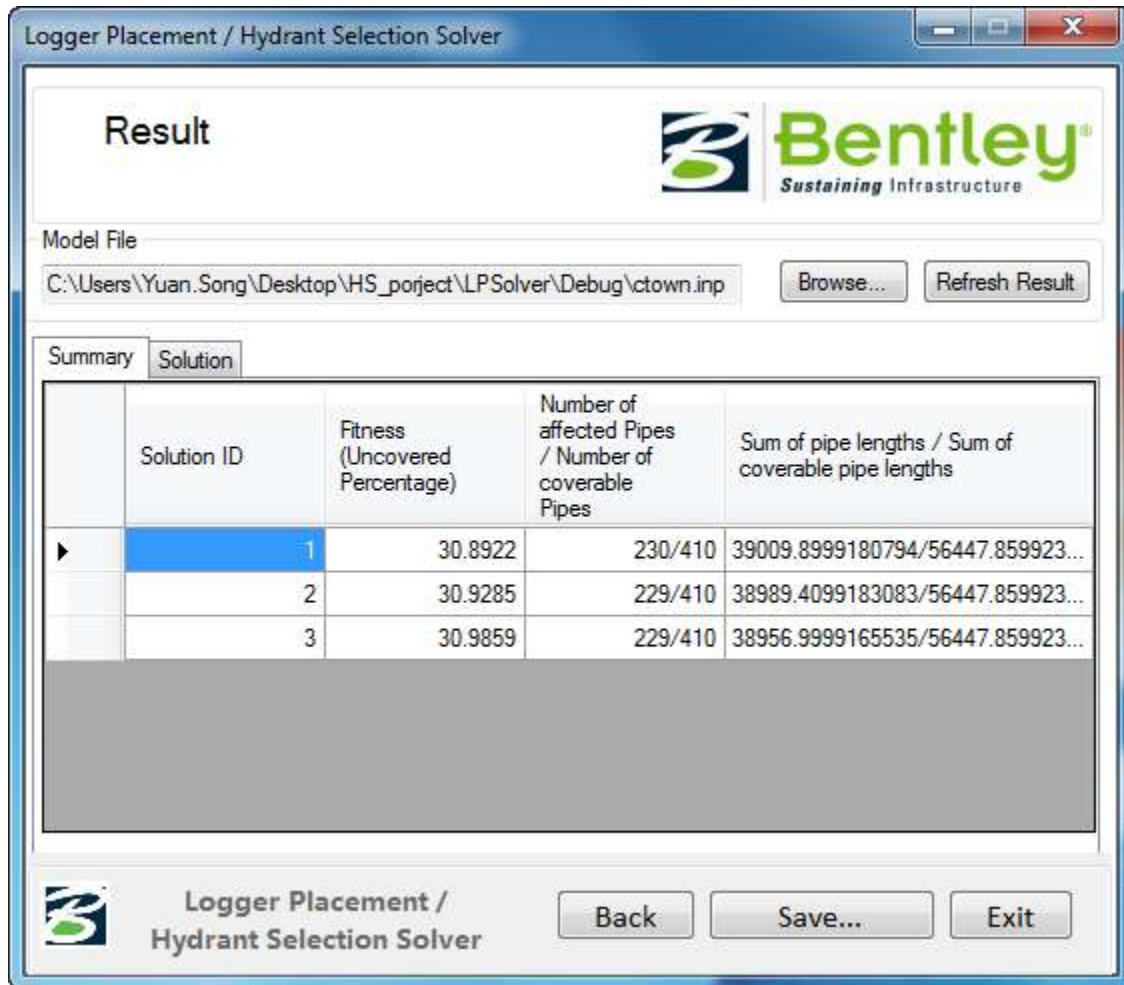
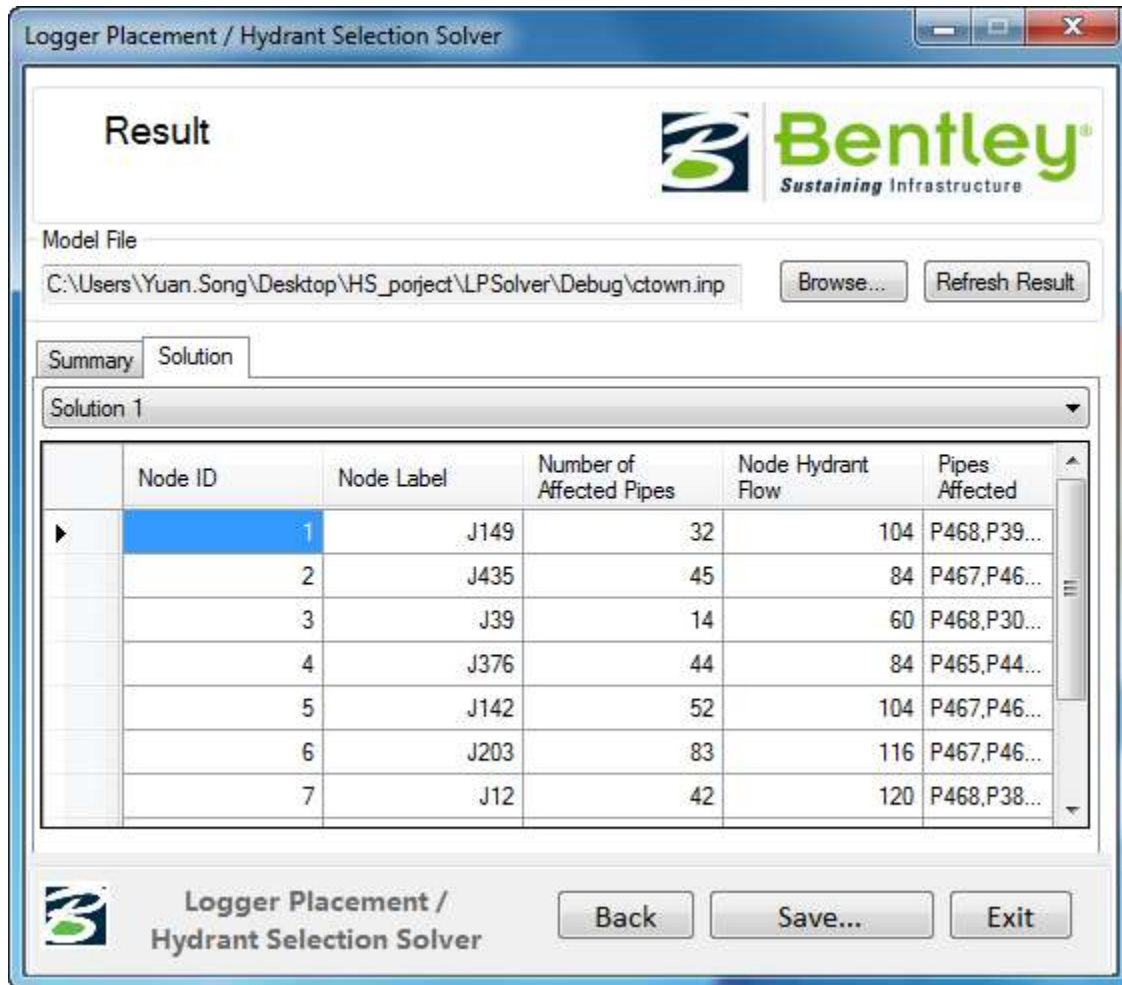

Figure 17 <Result> page – Summary
Figure 18 <Result> page - Solution
If user clicks on the <Result> button on <Parameters Setting> page, the result page will show as in Figure 17 and Figure 18. The result page shows optimized result computed by Darwin Framework or the result of one specific placement provided by user, depending on the user's choice on <Parameters Setting> page. Each solution is a combination of junctions, which are the candidate locations to install pressure loggers. The function of each section on the page is described one by one below.
- a. **Summary Table.** The table shows the basic statistics of top solutions as in Figure 17.
- b. Solution Table. The table shows the details of each top solution as shown in Figure 18. The details of the hydrants and their amounts of flow contained in the solution are shown. Each junction represents a hydrant location. The dropdown menu above the table can be used to navigate among different top solutions. The contents of the tables are described below.